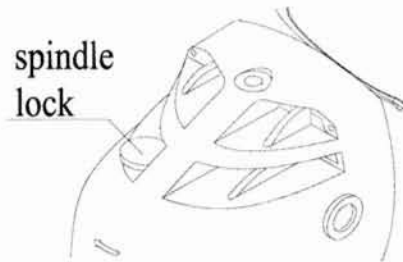

Figure 3
- 5) Press the spindle lock firm and ensure there is no movement in the spindle. Then while the spindle lock is depressed tighten the locking nut in a clockwise direction using the pin spanner.(figure 3)